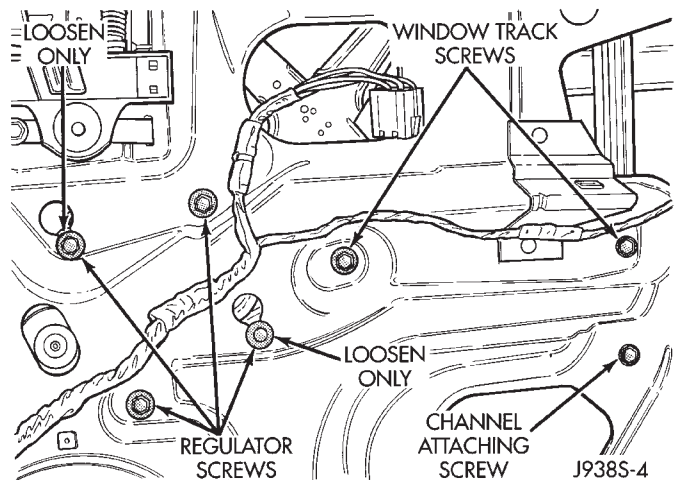

Fig. 9 Rear Door Window Regulator
(4) Remove 4 window regulator retaining screws (Fig. 9).
(5) Remove 2 door track screws (Fig. 9)
(6) Lift window upward and separate it from regulator. Support window.
(7) Remove window regulator from door.